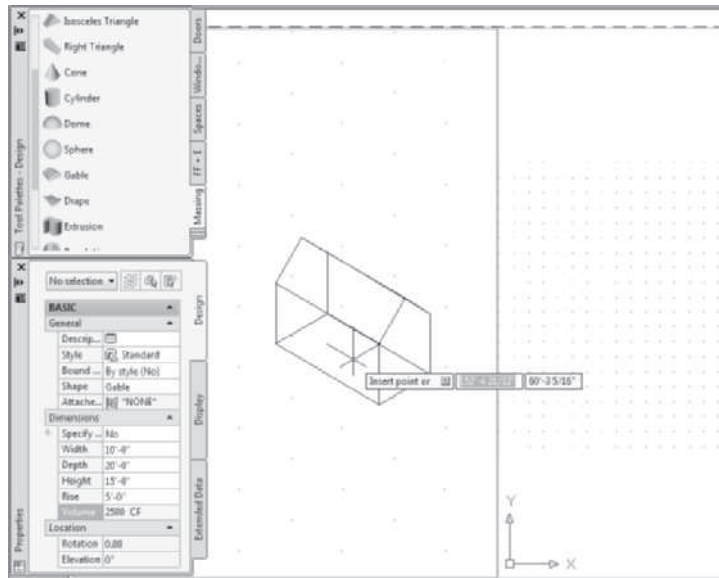

FIGURE 4.50 *Creating a mass element*
5. Move the cursor to the workspace and specify the insert point and rotation as shown in the workspace of Figure 4.50.